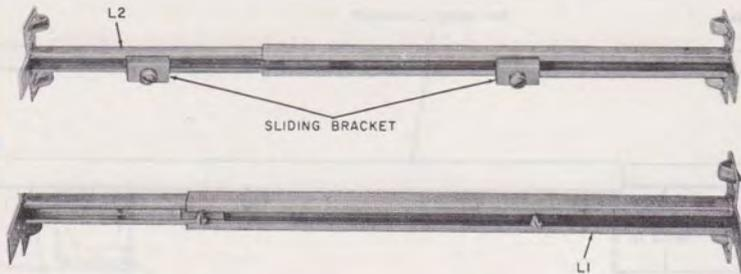
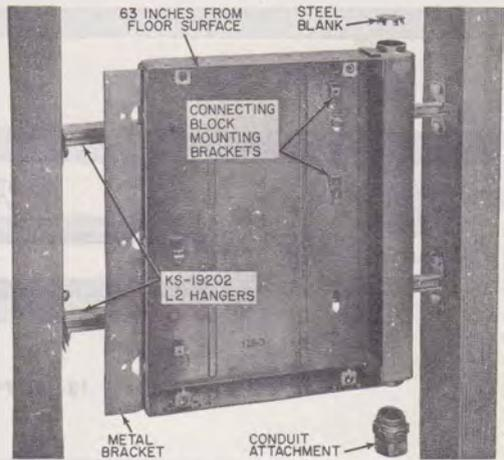

Fig. 9—KS-19202, List 1 (MD) and List 2 Hangers
Fig. 11—113D Apparatus Box, Typical Installation (Front View)
(1) Hanger, KS-19202, L2 (replaces KS-19292, L1 (MD)). KS-19202, L1 (MD) hanger (Fig. 9 and 10) is used to mount the 113A (MD) apparatus box (two required). KS-19202, L2 hanger (Fig. 9, 10, 11, and 12) is used to mount the 113C or 113D apparatus boxes in new wall construction (two required).
3.05 113A (MD) Apparatus Box: The 113A (MD) apparatus box is mounted by using two KS-19202, List 1 (MD) hangers (Fig. 9). The hangers are installed 6-9/16 inches apart and 1-3/8 inches from face of the stud (Fig. 10). Anchors are provided for securing the hangers to the building studs. The apparatus box is secured to the hanger using supplied screws.
3.07 113C and 113D Apparatus Boxes: The 113C or 113D apparatus box is mounted using two KS-19202, L2 hangers (Fig. 9). The box must be installed before the wall is placed. The spacing between hangers is 6-9/16 inches and the spacing from the stud face to the face of the sliding bracket is 1-3/8 inches (Fig. 10). The hangers are secured to the building studs using the stud anchors provided on the end of the hangers (Fig. 11 and 12). Fasten the box to the sliding brackets of the hangers with screws provided.♦